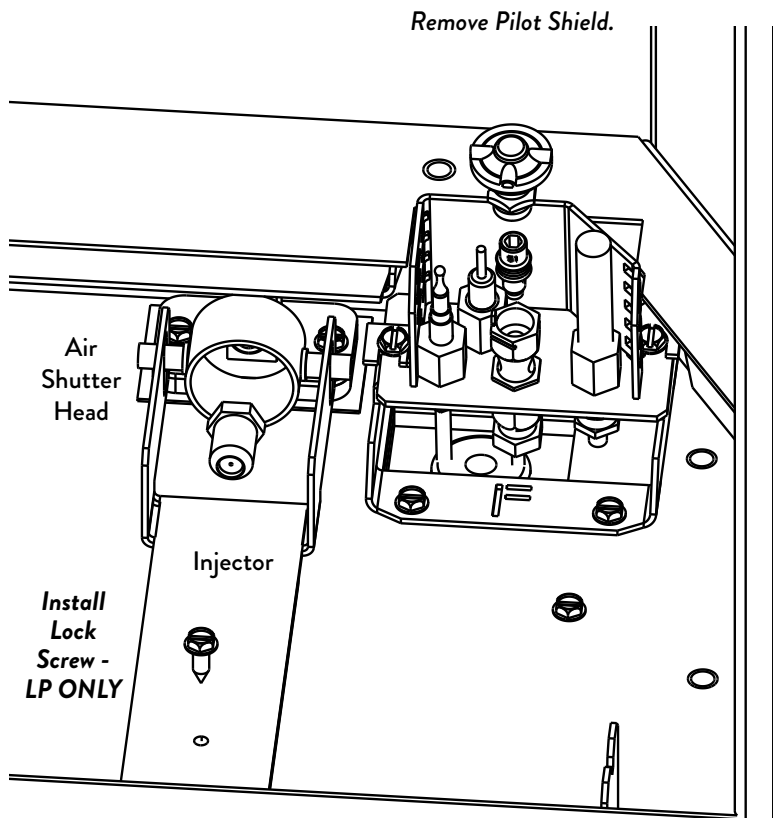

Figure 7.3.
See fig. 7.3. Using a 1/2" open end wrench or deep-well socket, remove the burner injector from the orifice holder and replace it with the injector supplied in the conversion kit.
6. PROPANE ONLY: Install the 1/2" Air Shutter Lock Screw (Fig. 7.3) provided in the LP Conversion Kit. The screw automatically sets the new, minimal shutter opening.
7. Change the Pilot Injector, Fig 7.3.
- Change the Pilot Orifice. Pull the Pilot Hood off of its base. It will snap by the retainer clip shown in Fig. 7.3.